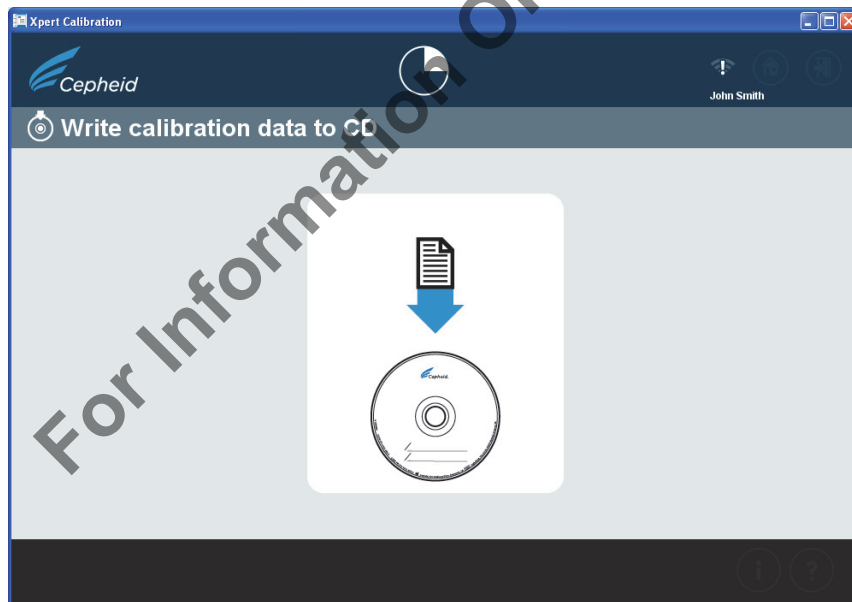
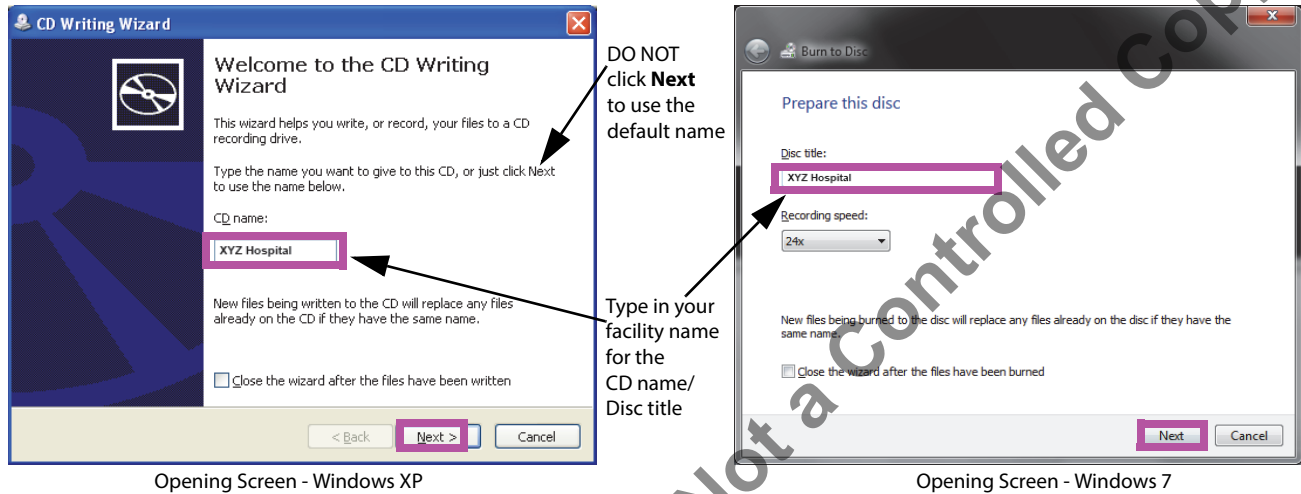

Figure 31. Write calibration data to CD screen - Step 2
Figure 32. CD Writing Program - Opening Screen
26. After inserting the blank Data CD 2, the screen will change briefly, indicating the CD has been recognized. See Figure 31. This screen will remain displayed until the CD writing process is complete.
- a. The CD Writing Wizard or Burn to Disc screen (Figure 32) will then appear as an overlay of the screen shown above, in Figure 31.
The next screens (Figure 32 through Figure 35) show the CD writing program screens as you progress through the writing process.
- b. On the first screen, after successful recognition of the blank CD, you will be asked to provide a name for the CD that you will be writing. DO NOT simply click the **Next** button (as suggested on the screen) to continue the writing process with the default name that appears. Instead, type in your facility's name, such as "XYZ Hospital," in the space provided and click **Next**. See Figure 32.